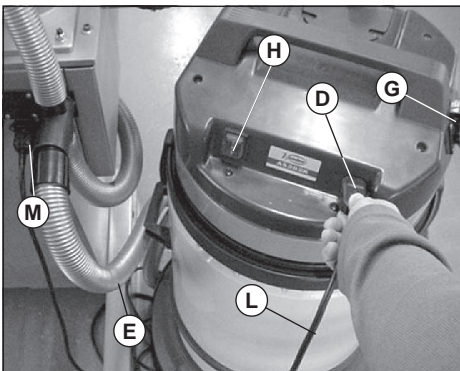

Fig. 5
- Connect control cable L (Fig. 5) to dust collector connection base D (Fig. 5) and to machine connection base M (Fig. 5).
- Plug the dust collector into a power socket and put switch H (Fig. 5) into position "II". Once in this position, when the trimmers of edgebander EB35 are working, the dust collector will automatically switch on, and will continue to function for approximately 5 seconds after the trimmers have stopped.
- Never connect edgebander EB35 to supplementary socket G (Fig. 5) of the dust collector.
- Assemble the plug to a power socket and turn switch H (Fig. 5).
- Connect the plug to a power socket and turn switch H (Fig. 5).
Connect the plug of the tool to the supplementary socket G (Fig. 5) on the upper part of the dust collector head.
Connect the dust collector plug to the mains and turn switch G (Fig. 5) to position "II". In this way, each time the tool is used, the dust collector will also switch on automatically.